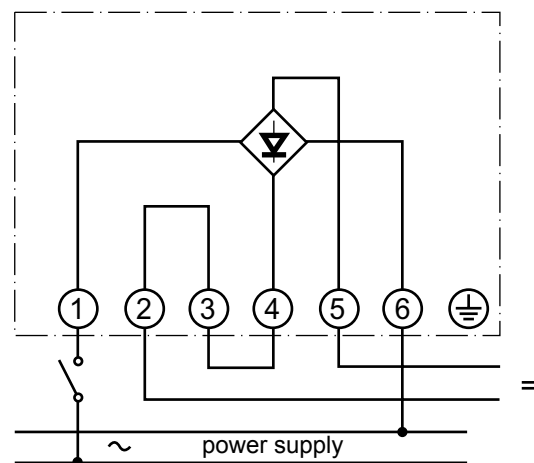

Fig. 4: Sizes 070 to 100
- 3 and 4 (fig. 4) for sizes 070 to 100